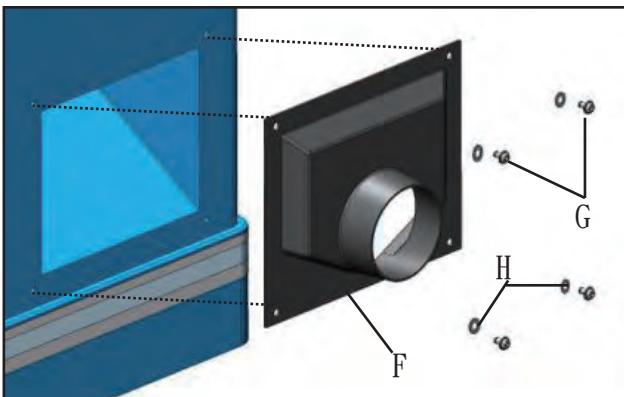

Fig. 1
The jointer is equipped with a push-button or magnetic switch, Fig. 1 that will accept a safety padlock (not included).
Mount the dust chute (F) to the pre-tapped holes in the side of the stand with 4 round head phillips screws M6x12 (G) & flat washers (H), Fig. 1